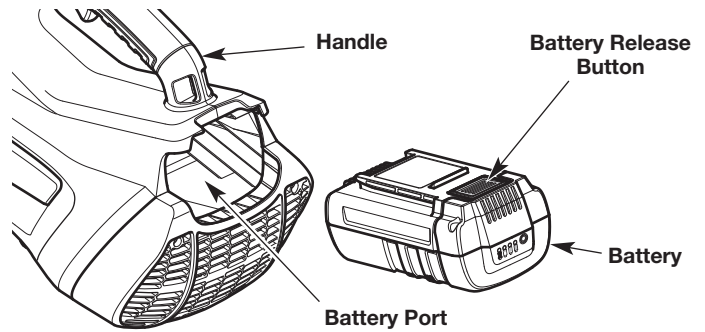

Fig. 6
1. Grasp the handle firmly (Fig. 6). **DO NOT** squeeze the trigger. Refer to *Starting and Stopping*.
2. Slide the battery into the battery port (Fig. 6). Push the battery firmly until the battery locks into place (Fig. 6). There should be an audible “click.”
2. Press the battery release button to unlock the battery (Fig. 6).
3. Pull the battery out of the battery port (Fig. 6).